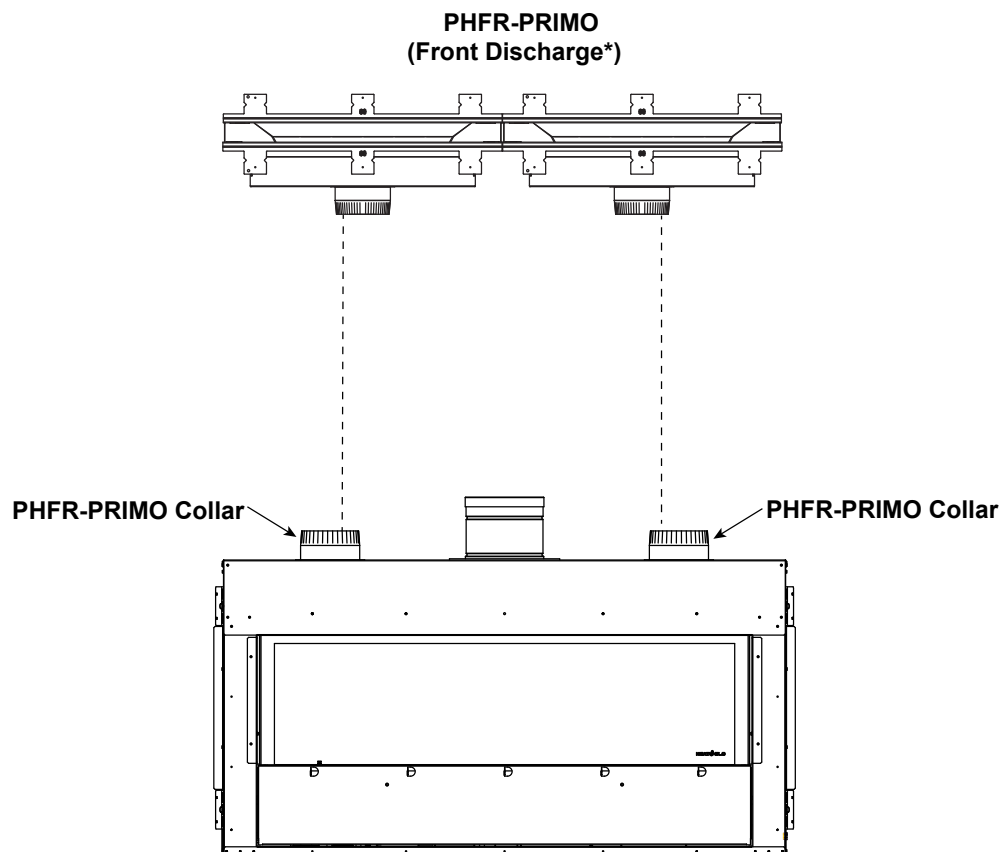

Figure 6.1 PHFR-PRIMO Passive Heat Front Discharge Configuration / Remove PRIMO Passive Heat Seal Plates
1. Remove the two outer passive heat seal plates. See Figure 6.1 and 6.2. Install collars over the openings using hurricane screws provided in the kit.